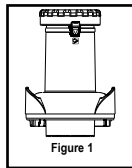

Figure 1
2. Place filter basket on top of the motor base (Figure 1).
5. Once the juicer is on, place the fruits and vegetables on the food chute and use the food pusher slowly to drive them down. Place the food pusher in the food chute, making sure the tab “▼” in the food pusher aligns with the juicing indicator icon “☞” (Figures 1 and 2). In order to extract the maximum amount of juice, it is important to push the food pusher slowly.
5. Place food pusher back on food chute, ensuring the tab “” on the food pusher aligns with the top of the mechanism for auto-clean “” (Figure 1).
1. Turn juice extractor off “O” and unplug it from the electrical outlet (Figure 1).
1. Turn unit off "O" and unplug it from the electrical outlet (Figure 1).
2. Place the collar on top of the motor base, ensuring it is well adjusted on the base (Figure 1).